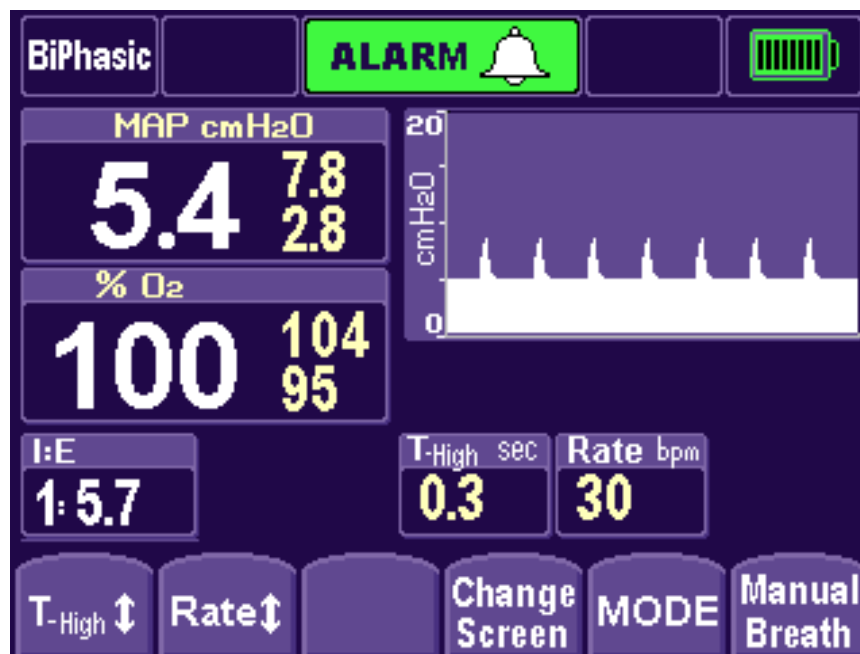

Figure A-5
10. Verify that the measured value on the external oxygen analyzer doesn't exceed 23% FiO₂. If so, then troubleshoot for an oxygen leak. Check all the fittings and connections and repeat the Oxygen Leak Test (Figure A-5).